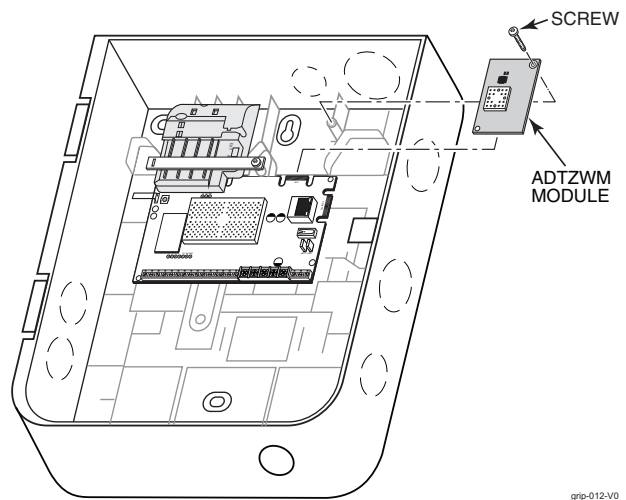

Figure 4. Installing the ADTZWM Module
5. Install the ADTZWM (ZWAVE) on the edge connector on the PCB (refer to Figure 4). Ensure the receptacle is securely seated on the edge connector.